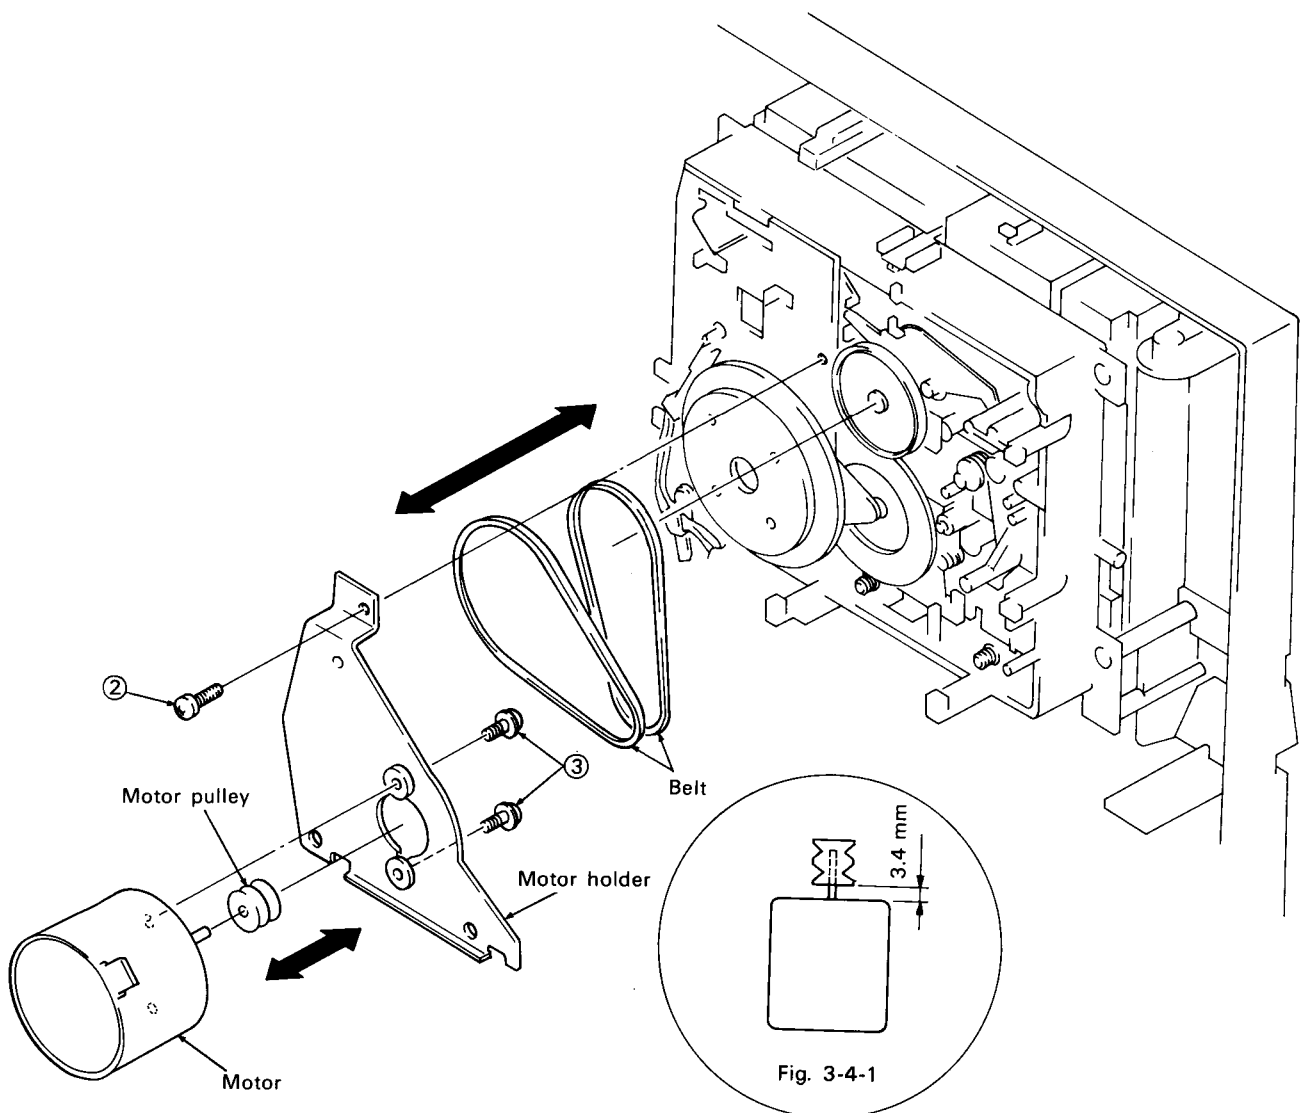
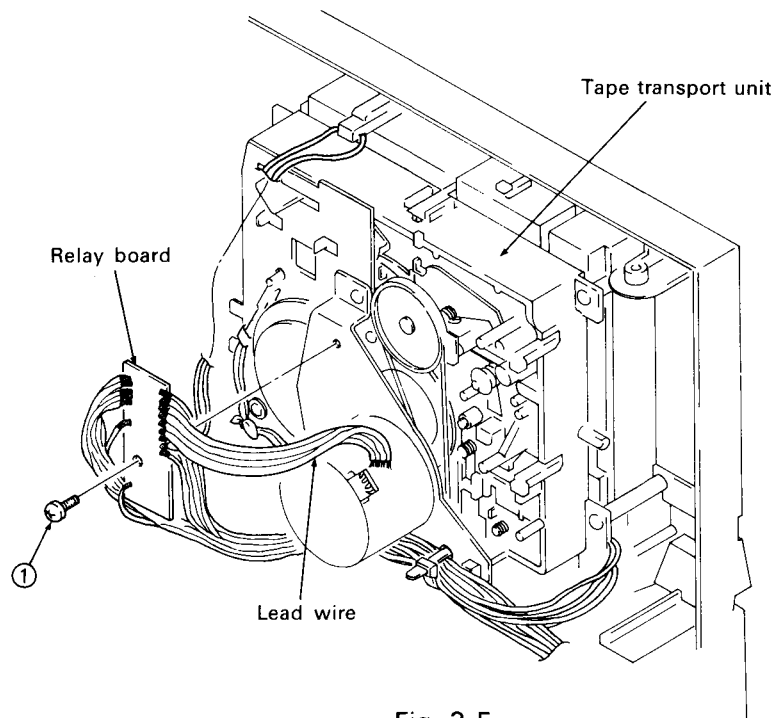

Fig. 3-4
Fig. 3-5
1. Remove lead wire of motor terminal. (See Fig. 3-5)
2. Remove set screw ①, and detach Relay board.
3. Remove set screw ②, and detach Motor holder. (See Fig. 3-4)
4. Remove 2 set screws ③ of Motor, and detach Motor.